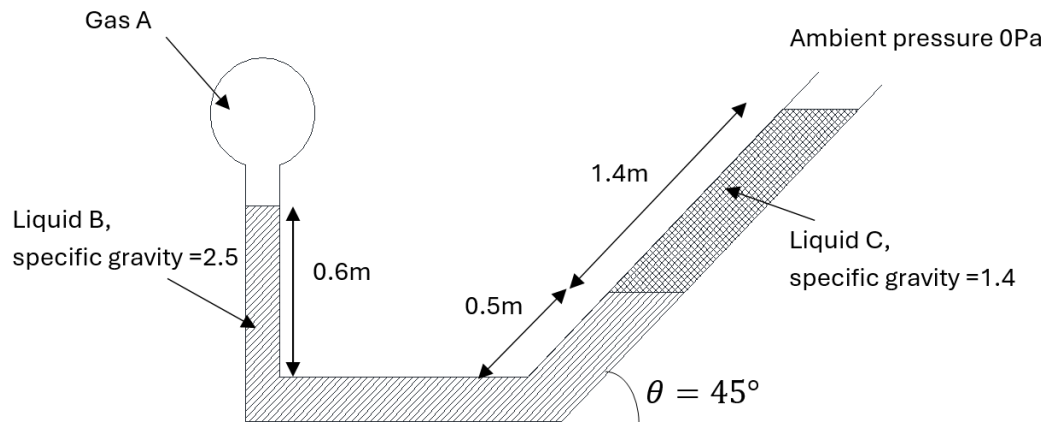

Figure 2 (a)
2. (a) Figure 2 (a) shows a manometer that has been used to measure the Gas A pressure containing two different manometer liquids; Liquid B and Liquid C. Calculate the pressure and density of Gas A. Assume Gas A as ideal gas with gas constant, $R = 287 \text{ J/kg.K}$, and temperature 40°C . Take water density $= 1000 \text{ kg/m}^3$.